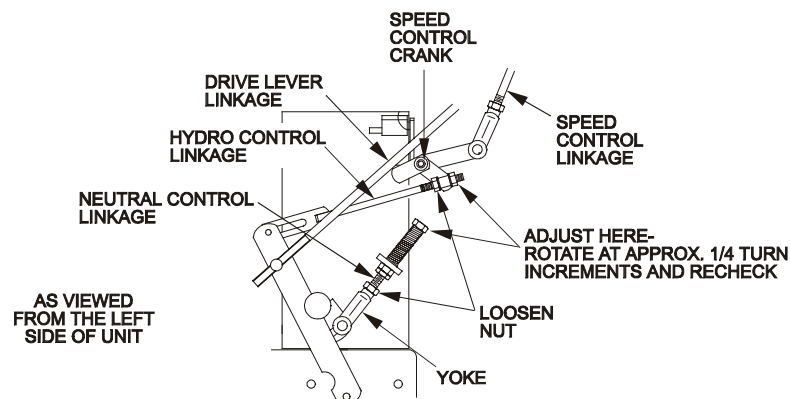

FIGURE 14
2. Move the speed control lever (located on the console) to the full forward position and check the orientation of the tabs on the ends of the speed control crank (Figure 14). These tabs should be pointing straight down at the 6 o'clock position or slightly forward. Adjust the threaded yoke at the bottom of the speed control linkage (Figure 14) until the tabs are positioned correctly.
4. Loosen the nut against the neutral control linkage yoke as shown in Figure 14.
2. Loosen the front nut on **left** hydro control linkage as shown in Figure 14. Turn the rear control linkage adjusting nut counter-clockwise until wheel rotates forward. Turn the rear nut of left control link clockwise 1/4 of a turn at a time, stopping to move the speed control forward and back to